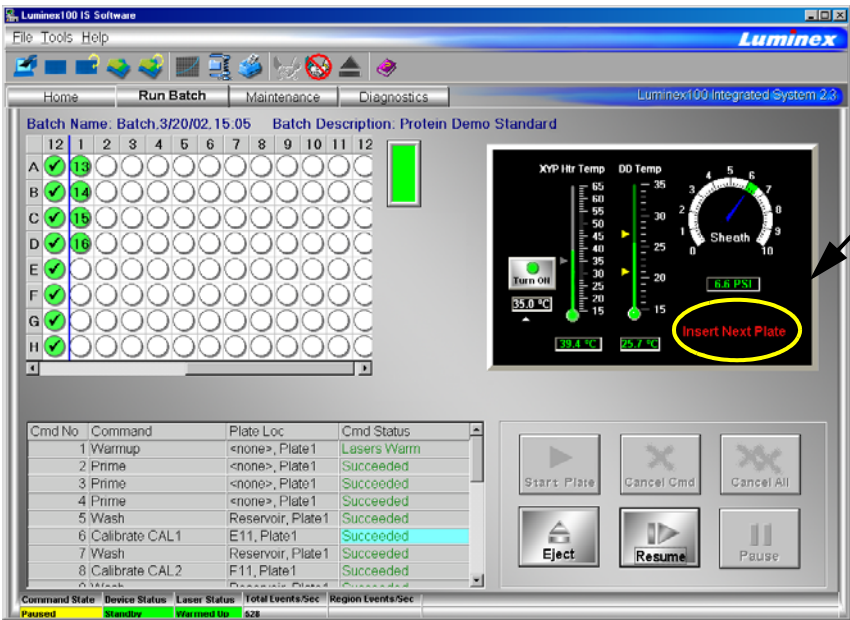

Figure 5-49 Insert Next Plate Prompt
3. On the **Run Batch** tab, click **Start Plate** to begin processing the batch. When the initial plate is through, the system pauses and displays the "Insert Next Plate" message in red. See Figure 5-49.